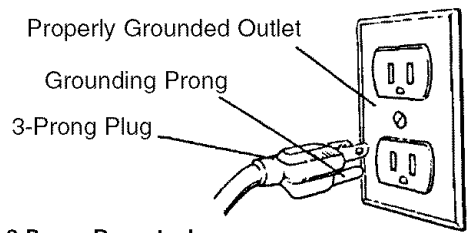

Figure 6 - 3-Prong Receptacle
- This tool is equipped with an approved 3-conductor cord rated at 150V and a 3-prong grounding type plug (see Figure 6) for your protection against shock hazards.
- Grounding plug should be plugged directly into a properly installed and grounded 3-prong grounding-type receptacle, as shown (Figure 6).